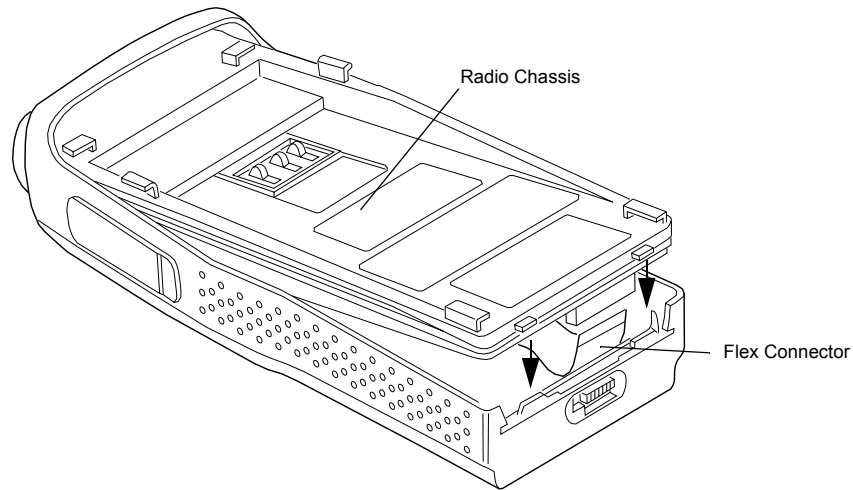

Figure 7-4. Keyboard Flex Connector
6. Pull the chassis assembly out of the front cover only until the volume and channel selectors shaft just clear the top of the case. (Figure 7-4).